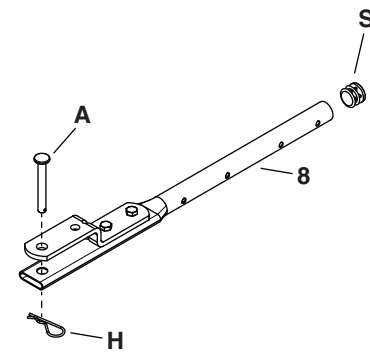

Figure 1
STEP 1: (SEE FIGURE 1)
- Insert a plug (S) in to the end of the hitch tube (8).
- Install the hitch pin (A) in the hitch bracket and hitch tube and secure it with the hairpin cotter (H).